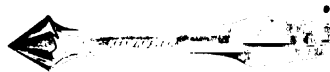

Fig. 111.
**The Counter Sink Bit** is a useful tool for enlarging the end of a hole made by the gimlet for the reception of a screw, so that the head of the screw may be sunk to such a depth that its top will be on a level with the surface of the wood. The shape of this tool is shown in Fig. 111.